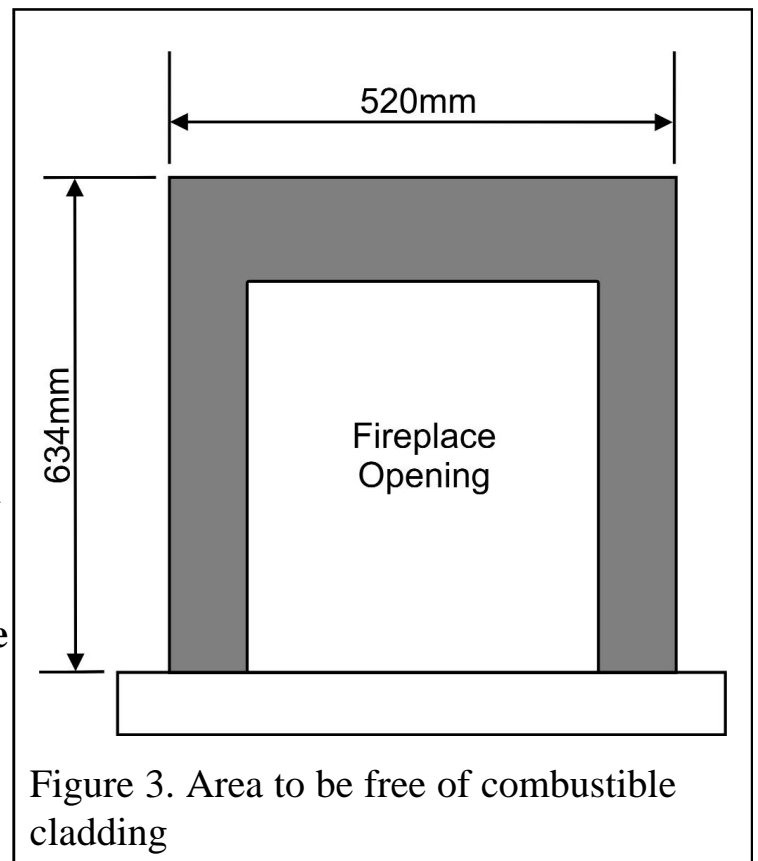

Figure 3. Area to be free of combustible cladding
4.16 If the fire is to be fitted against a wall with combustible cladding, the cladding must be removed from the area shown in figure 3.